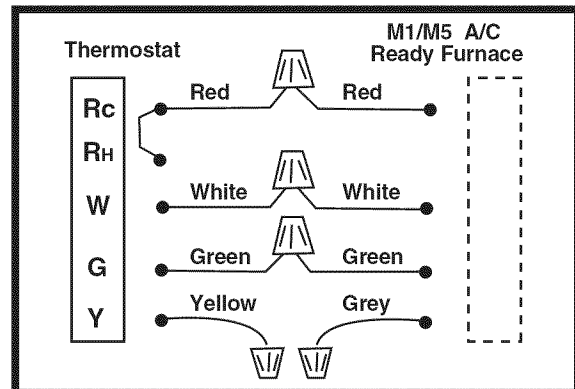

Figure 25. Thermostat Wiring For A/C Ready Models
**IMPORTANT NOTE:** Proper line voltage polarity must be maintained in order for the control system to operate correctly. Verify the incoming neutral line is connected to the white wire and the incoming "hot" line is connected to the black wire. The furnace will not operate unless the polarity and ground are properly connected as shown in Figure 25.
2. Connect the thermostat wires to the furnace low voltage pigtails (see Figure 25).